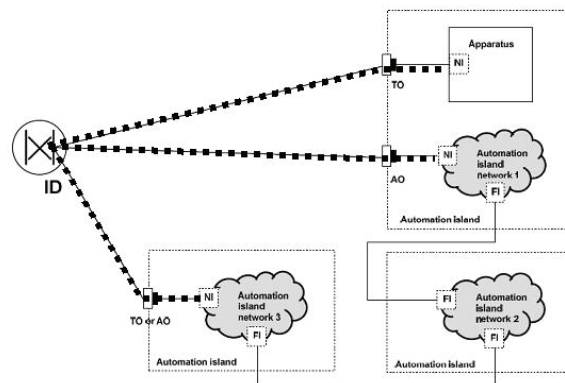

Figure 5: PROFINET CONFORMANCE CLASS A connection
- For the purpose of connecting automation islands, cabling that meets the requirements of ISO/IEC 24702 can be used for Conformance Class A. In Conformance Class A applications, there is no technical necessity for direct cabling between FI and FI using PROFINET-specific cabling, as long as the user can guarantee performance via the ID through the use of suitable components and measuring technology (Figure 5).